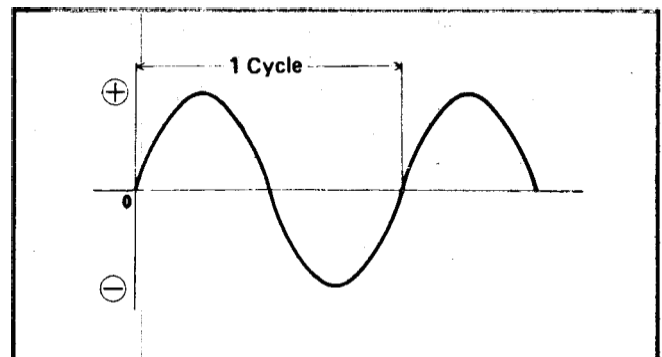

Figure 129
Alternating current (AC) has a voltage level that will vary equally above and below a 0 reference line. The alternating current we use in our homes will vary from a +120 volts to a -120 volts 60 times each second. The voltage is actually reversing its direction above and below a 0 reference line. See Figure 129.